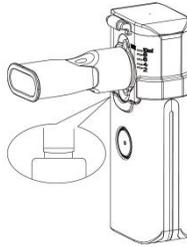

figure 5
- a. Attach the mouth piece onto the nebuliser liquid cup as shown in figure 5.